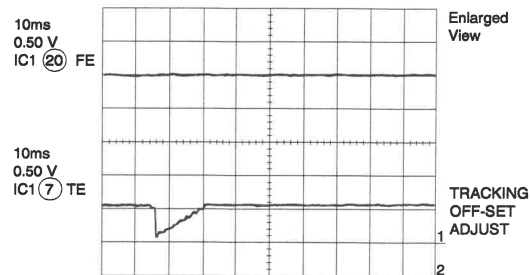

Figure 13-3
2. Tracking offset (Fig. 13-3)